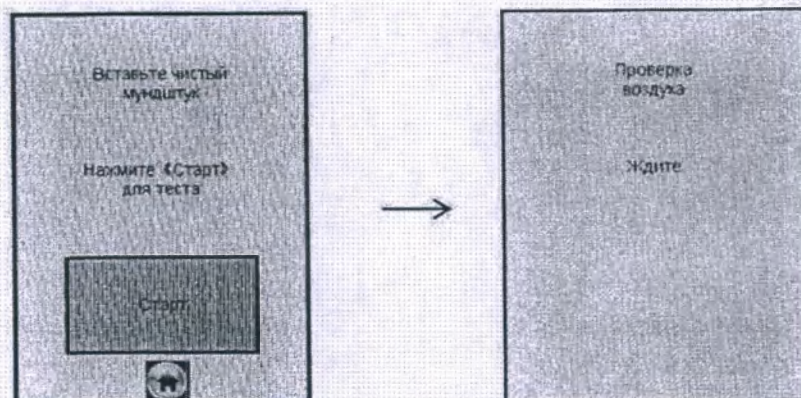

Figure 13 – Beginning of the measurement procedure
2.8.8 When the data in all fields has been entered, a window with the message "Insert a clean mouthpiece" will appear on the screen (Figure 13, left).
When you press the “Start” button, an air sample is taken to automatically check for the absence of ethanol and other components that may affect the analyzer readings in the ambient air, in the analyzer intake system and in the mouthpiece (Figure 13, right):